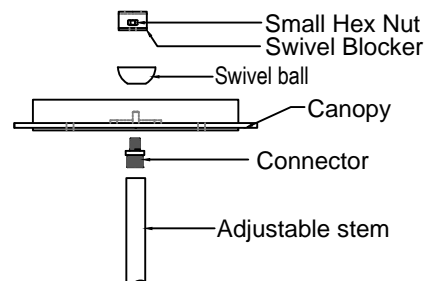

FIGURE-02
2. Determine the overall desired length of the fixture. Assemble the adjustable stems one at a time onto the fixture leads. Tape the end of the leads to a stiff wire (coat hanger) to aid in pulling them through the stems. Place the canopy onto the stem. Assemble the top stem section, decorative breaker, fixture stem and swivel. Place the swivel block over the nipple of the canopy and thread the hex nuts onto them. (See Figure -02)